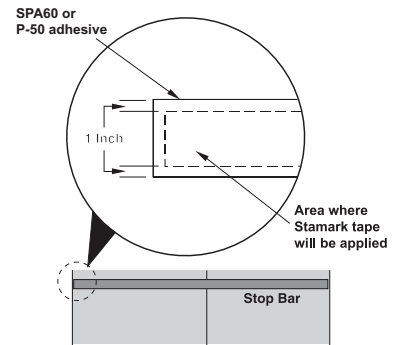

Figure 16
- If using SPA60 or P-50 for an intersection or transverse marking - including legends and symbols - evenly apply one coat of adhesive to the road surface using a solvent-resistant roller with a minimum 3/8-inch nap to a maximum 3/4-inch nap. The coating on the pavement must extend at least one inch (2.5 cm) beyond the premarked area. (See Figure 16.)